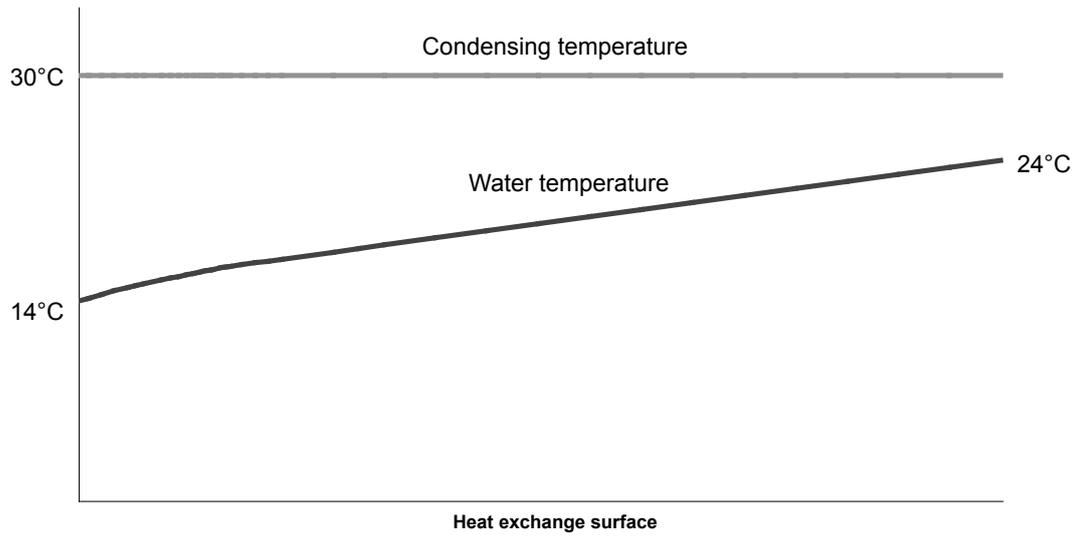

Fig. 1 - Heat exchange pattern in the condenser
- Condensation temperature expected based on the water/refrigerant heat exchange in the condenser: approximately 6 °C above the outlet water temperature, equivalent to 30 °C (with a corresponding saturation pressure) (Fig. 1).